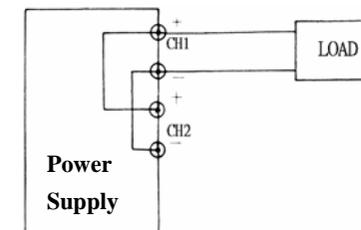

**Fig. 5-4 Positive and Negative Supply**
- F. If the chassis or common of the equipment being powered is separated from both the positive and negative polarity power inputs, the output of the CH2 (negative) supply tracking the output of the CH1 (positive) supply, the configuration as shown in Fig. 5-4.